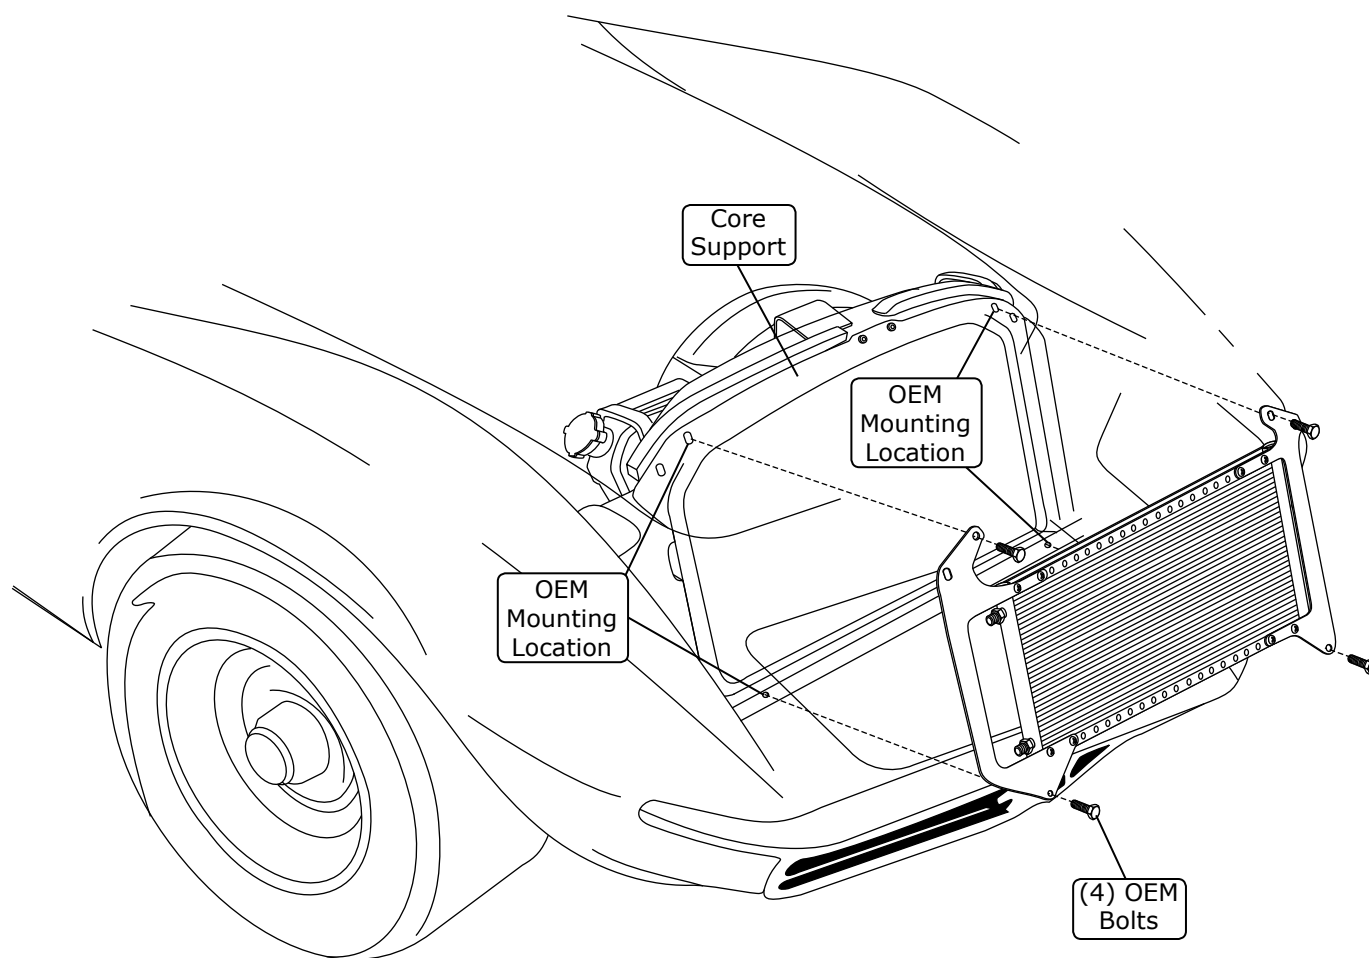

Figure 2
2. Install the condenser assembly onto the front side of the core support, and secure using OEM bolts through the OEM holes as shown in Figure 2, below.